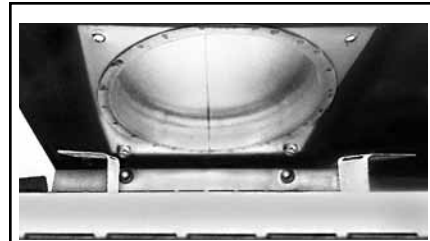
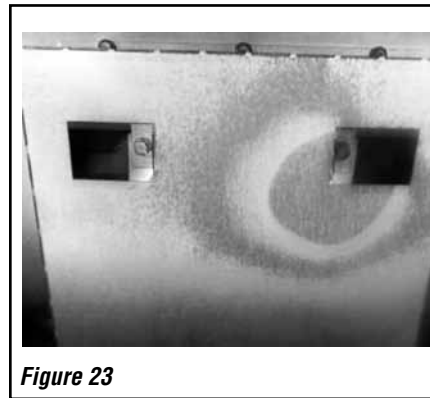

Figure 22
Figure 23
3. Bend the top vent flue restrictor FORWARD and UP (Figure 22), and secure with the other 2 previously removed screws (Figure 23).